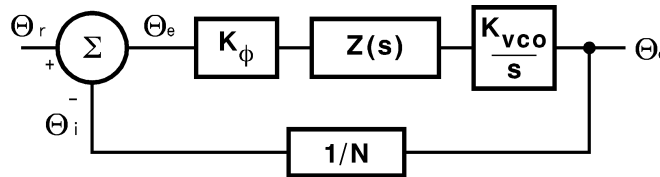
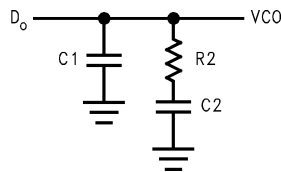

Figure 26. PLL Linear Model
Figure 27. Passive Loop Filter
A linear control system model of the phase feedback for a PLL in the locked state is shown in Figure 26. The open loop gain is the product of the phase comparator gain (K_ϕ), the VCO gain (K_{VCO}/s), and the loop filter gain $Z(s)$ divided by the gain of the feedback counter modulus (N). The passive loop filter configuration used is displayed in Figure 27, WHILE the complex impedance of the filter is given in equation 2.